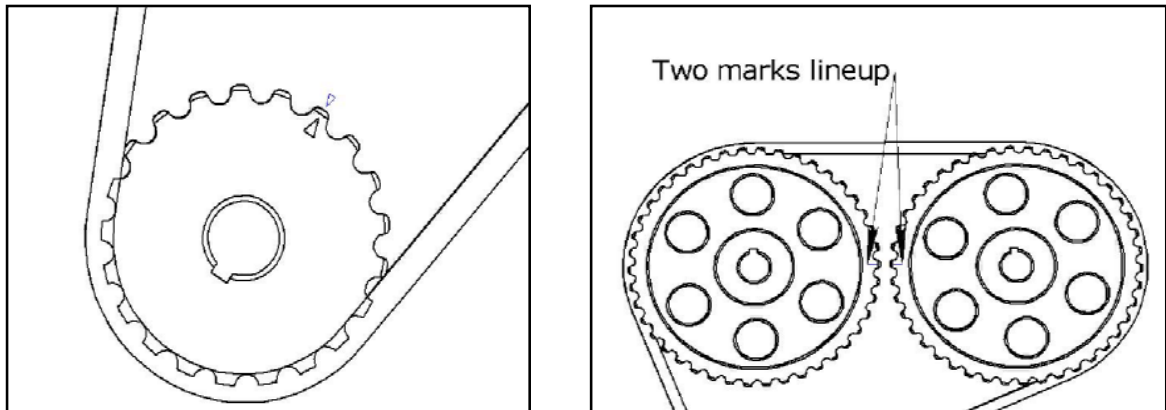

Figure 2. Camshaft and Crankshaft TDC Position
2. Rotate the crankshaft **clockwise ONLY** to **TDC** (Top Dead Center) position (i.e. #1 cylinder firing position), see Fig.2 (a) and (b).
- Check the **TDC** alignment of the crankshaft and the camshafts, see Fig. 2 a and b. If the alignment of all sprockets are within the guidelines, the installation is complete.